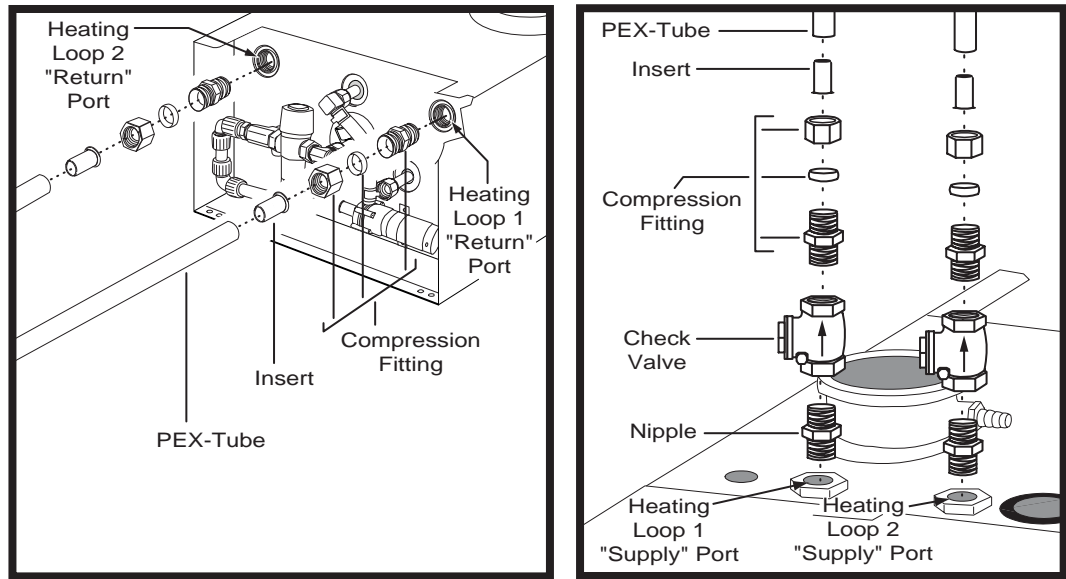

Figure 14
- E. Be sure to install the supplied "Check Valves" to prevent thermal convection, see Figure 14.
4. Insert and tighten the Check Valves into the Hydro-Hot's **Supply** ports, see Figure 14.
5. Connect and tighten all interior Plumbing Lines, **Supply** and **Return**, to the Hydro-Hot's appropriate Heating Loop ports, see Figure 14.